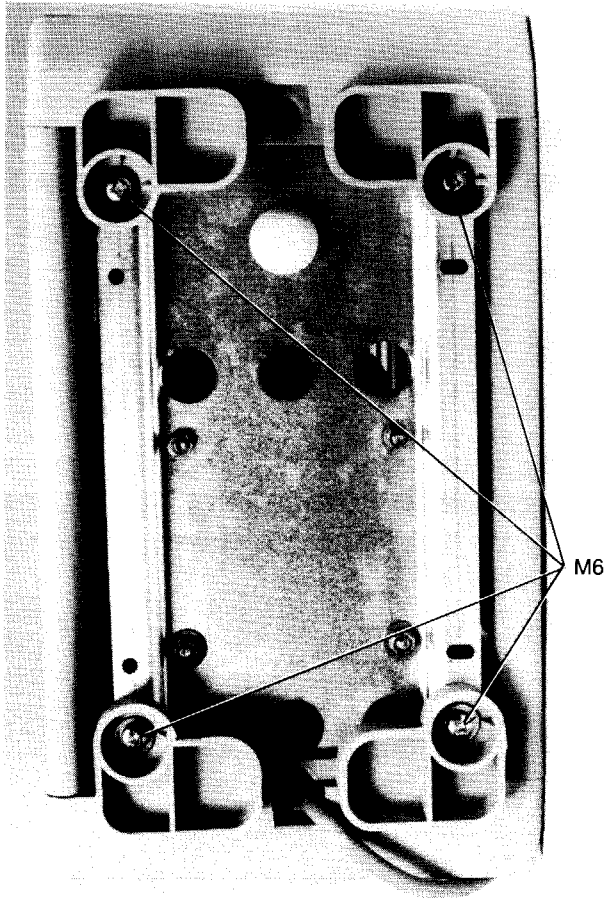

FIG. 150
- the connecting blocks are accessible after removing the cover (see Fig. 150, 151, 152, 153, 154, 155).